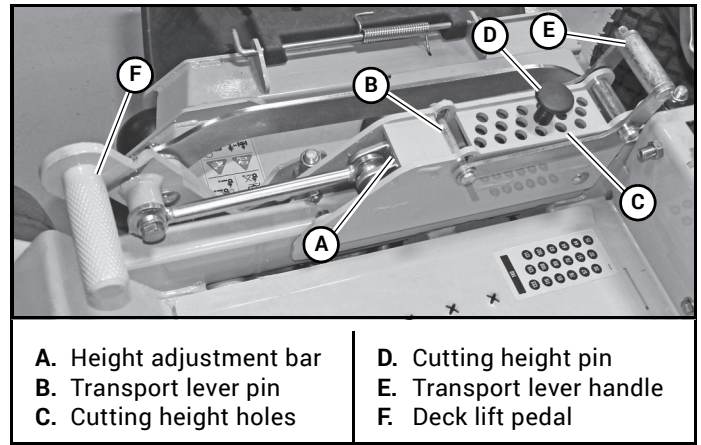
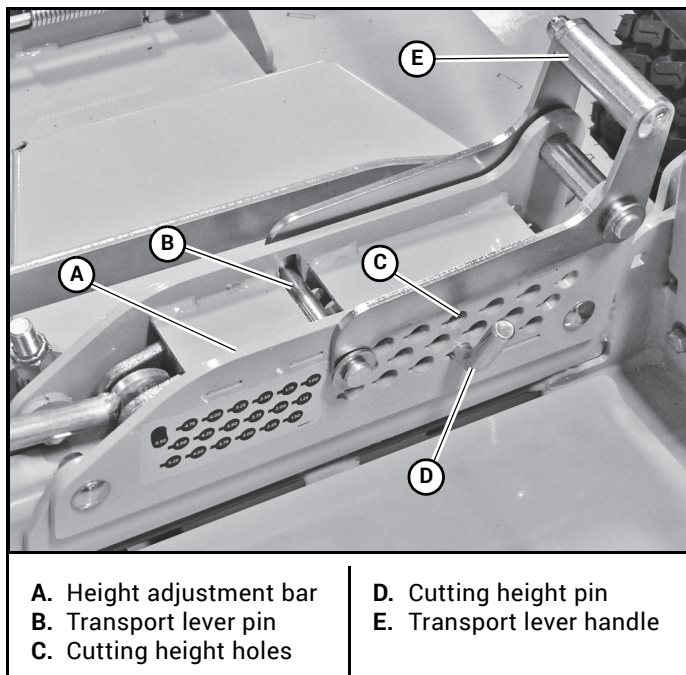

Figure 3-16
Figure 3-15
The deck cutting height is adjustable in 1/4" (6.3 mm) increments. The holes in the height adjusting bar are spaced at 1/4" (6.3 mm) intervals. Figure 3-15 & Figure 3-16
1. Push on the deck lift pedal to release pressure from the cutting height pin. Figure 3-15 & Figure 3-16
2. Place the pin in the desired cutting height hole. Figure 3-15 & Figure 3-16
1. Push on the deck lift pedal until the transport lever pin slips into the slot in the top of the height adjusting bar. Figure 3-15 & Figure 3-16
2. Pull on the transport lever handle until the transport lever pin lifts out of the slot. Figure 3-15 & Figure 3-16